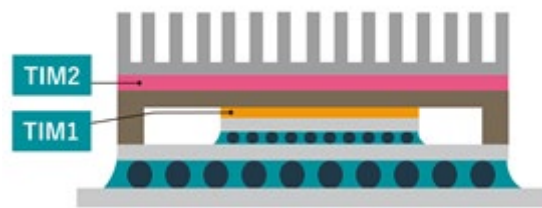

Figure 1: Schematic diagram to show the location of TIM1 and TIM2 in a packaging
- (i). Sketch and label package components in Figure 1. Explain types of materials used in TIM1 and TIM2.